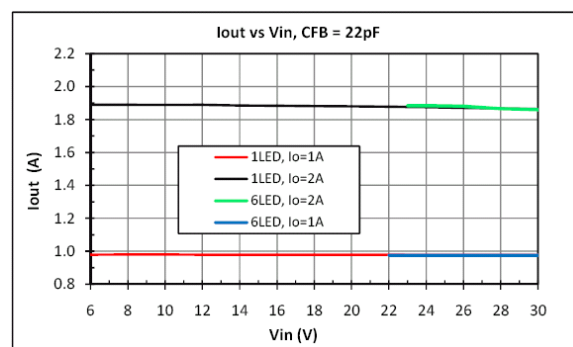

Fig. 5: Output Current vs Input Voltage
i) Place the bypass capacitors C4 and C5 as close as possible to the 7600 IC. See figure 5 for details.